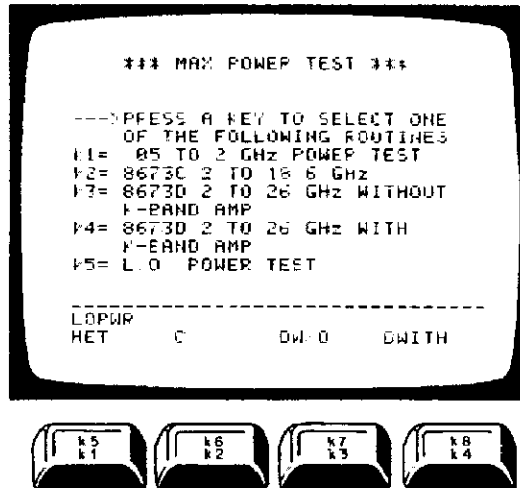

Figure 5-32. Maximum Power Menu
5. When the Utility Menu is displayed, press **k1** to select the Max Power Menu. A new menu will be displayed as in figure 5-32